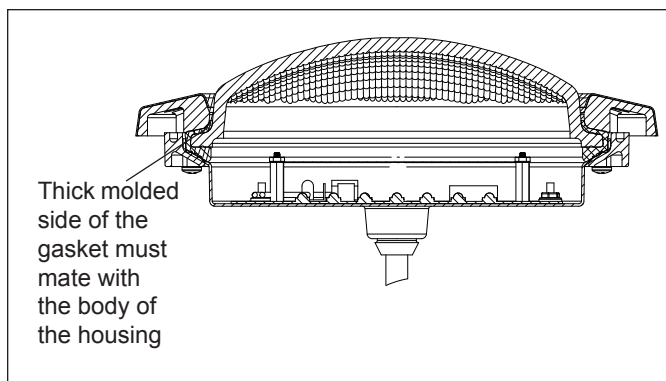

Figure 4. Cross Section of Jandy WaterColors LED Light
- b. While holding the fixture upright, place the glass lens with the gasket on top of the fixture. Please note that the lens gasket is not symmetrical. Therefore, it must be installed correctly so that the lens can seal to the fixture housing. Place the gasket on the lens so that the thick molded side of the gasket will mate with the housing when the lens is installed. See Figure 4. On the small light, replace the diverger by tucking the tabs between the lens and gasket.